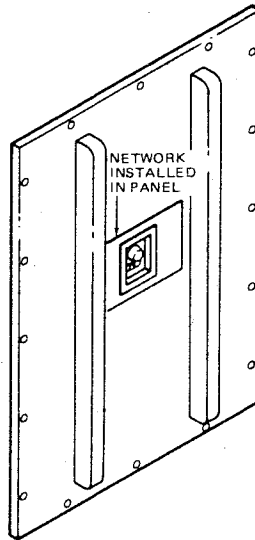

Figure 3. Rear Panel with Network Installed
- Install network in rear access panel with four screws retained from Step 3 (see Figure 3).